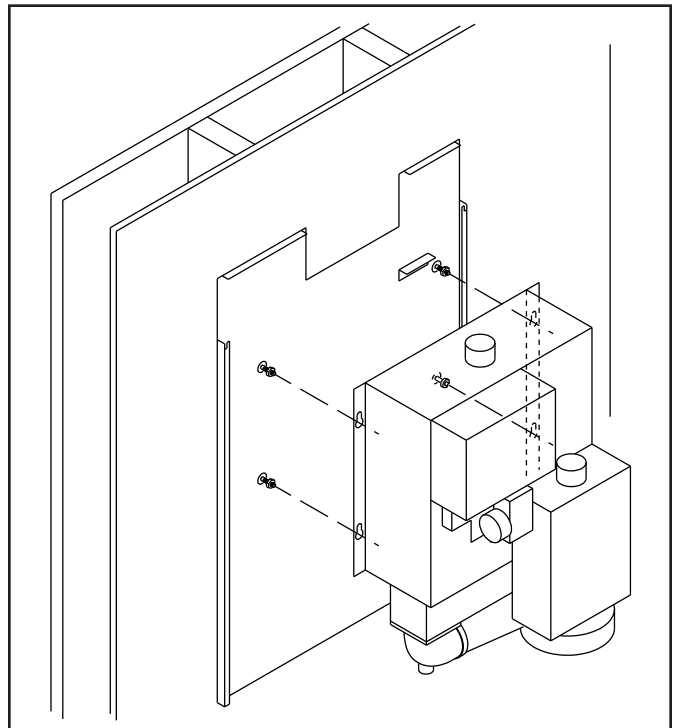

Figure 7: Position and Secure Boiler
8. Place hex nuts (provided) loosely on the ends of boiler mounting studs on mounting panel. (See Figure 7.) Two keyhole-shaped slots are provided on each side of the boiler rear which allow hex nuts (on studs) to pass through slots. Lift the boiler and seat it on the mounting studs. Tighten hex nuts securely.